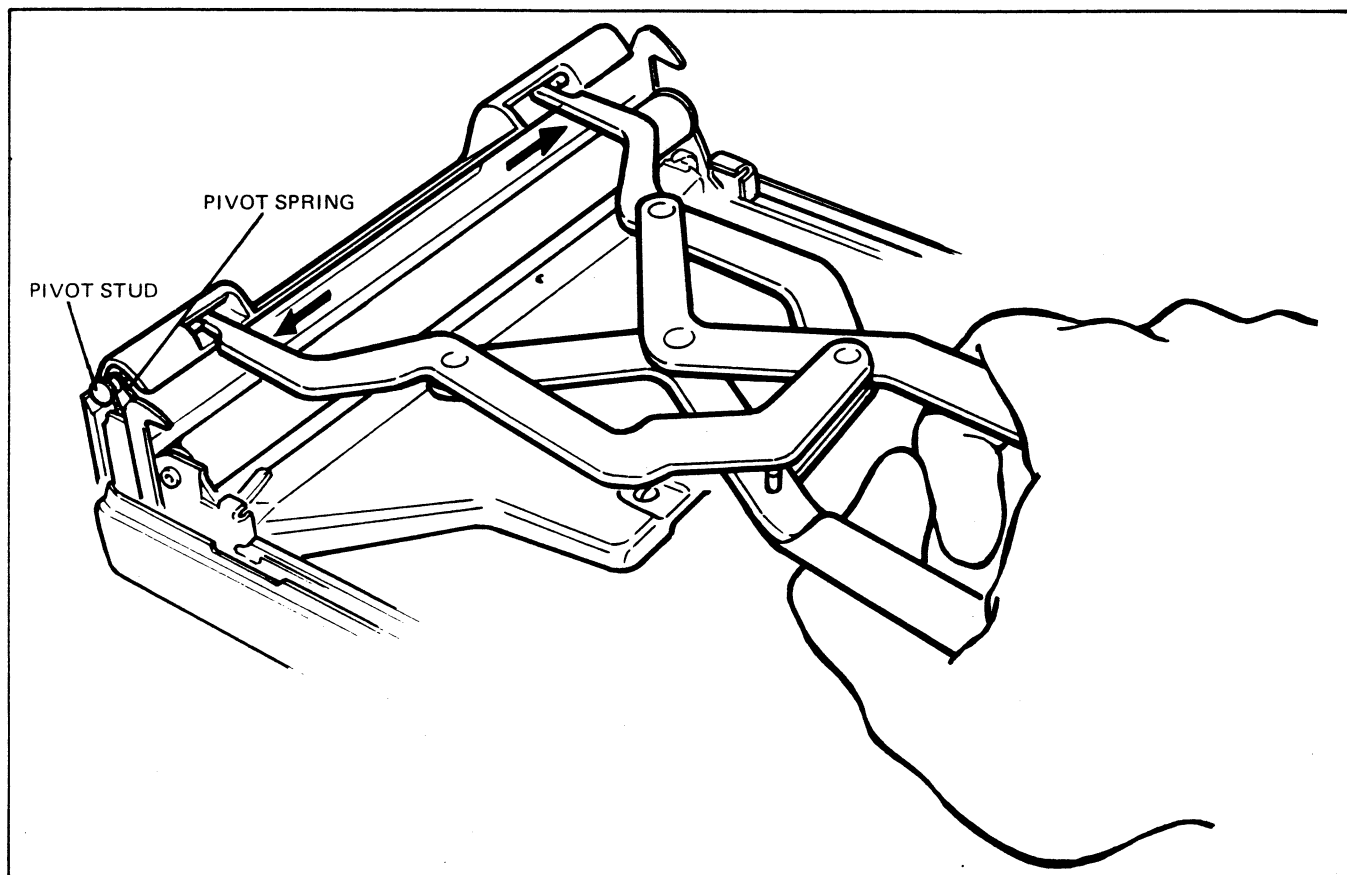

FIG. 5.1 REMOVING THE EXIT DOOR
2. Position tool #169455 against the pivot studs as shown in Figure 5-1). Squeeze the tool handle until the pivot studs pop loose.